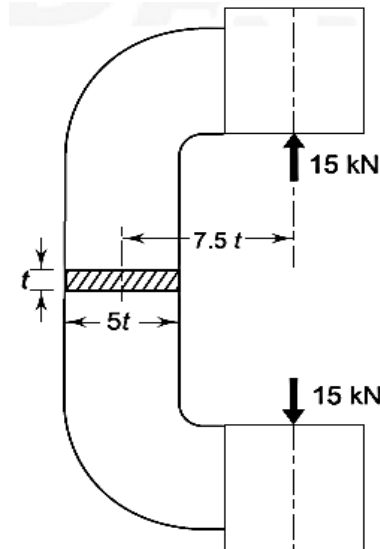

Figure.5.2
3. A C-frame subjected to a force of 15 kN is shown in Fig.5.2 it is made of grey cast iron FG300 and the factor of safety is 2.5. Determine the dimensions of the cross-section of the frame.